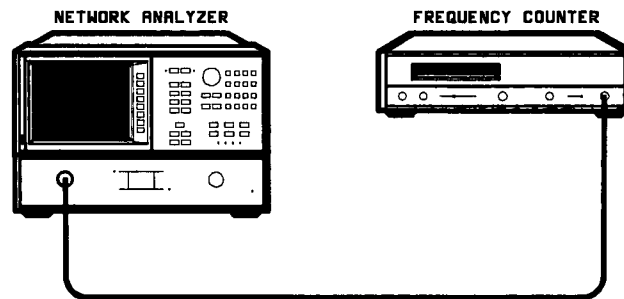

Figure 4–6. Frequency Range and Accuracy Test Setup
1. Connect the equipment as shown in Figure 4–6 and press **RECALL** **RECALL FAC PRESET** **MENU** **CW FREQ.**